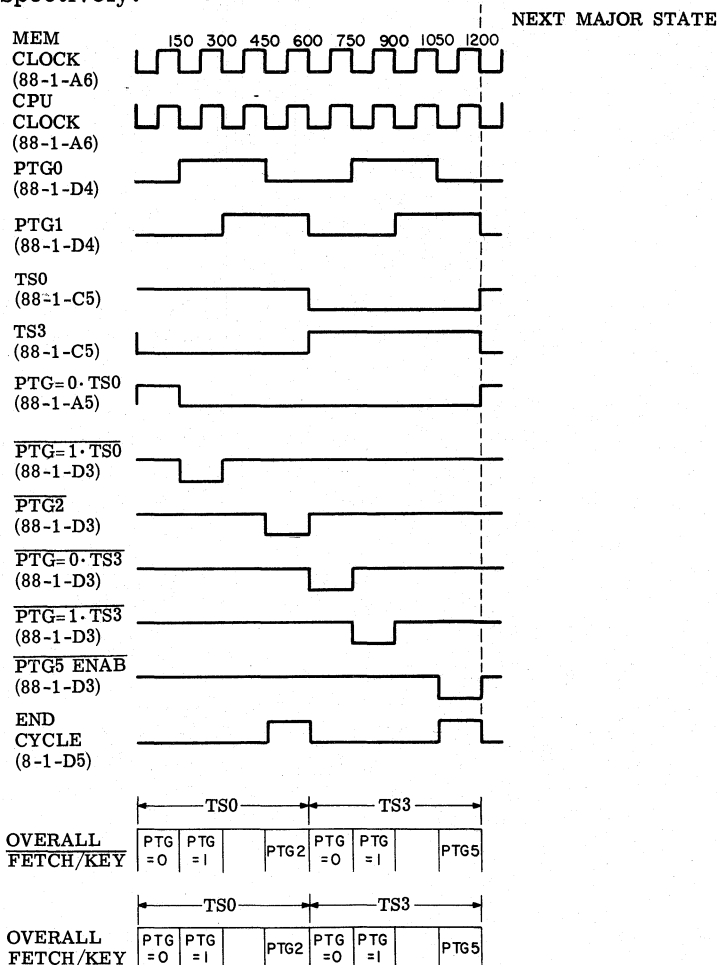

Figure C-1 Timing For The Processor Timing Generator During All Major States Except Fetch or Key
**The Processor Timing Generator.** This two bit counter, designated, PTG0 and PTG1, cycles every four clock pulses. PTG0 is set during the two middle clock cycles of a TS cycle, and PTG1 is set during the last two cycles of a TS cycle. These two levels are decoded into two others called PTG2 and PTG5. PTG2 is the last clock interval during TS0, and PTG5 is the last clock interval during TS3. PTG5 is used, for example, to enable the major state flip-flops. PTG0 "anded" with TS0 to form  $\overline{PTG0} \cdot TS0$ , the first clock interval during TS0, is used to increment the Adder as the least significant four bit nibble is passed through it. Figures C-1 and C-2 show the timing for the PTG during FETCH or KEY major states, and all other states.